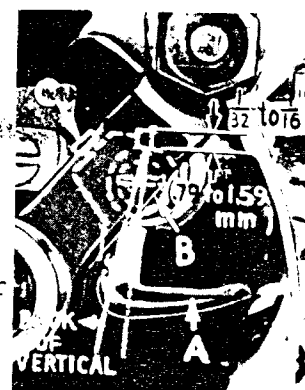

Fig. 8
Insert upper looper (A, Fig. 8) in its holder. Screw (B) holds upper looper in its holder, and permits it to be pushed in or out, or turned around its shank. Insert upper looper holder into upper looper shaft, if it is not already in place. Screw (C, Fig. 8) on clamp holds the upper looper holder in the shaft. Locate upper looper in its holder so that the shank extends $\frac{1}{32}$ to $\frac{1}{16}$ inch (.79 to 1.59 mm) beyond holder (Fig. 8), for 695B010, 011, 041, 043, 050 and 052, and $\frac{1}{16}$ to $\frac{3}{32}$ inch (1.59 to 2.38 mm) for 695B016, 028, 042 and 054.
When the upper looper is at the right end of its stroke, upper looper holder should be set to position upper looper shank slightly back of vertical on 695B010, 011, 016, 028, 041, 043, 050, and 054 (Fig. 8). On 695B042 upper looper holder should be set to position the upper looper shank about vertically.